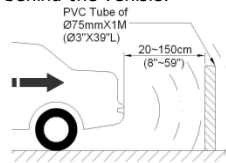

Fig.17
◆ Prepare a PVC tube of  $\varnothing 75\text{mm} \times 1000\text{mm} (\varnothing 3" \times 39" \text{L})$  for short distance test. Fig.17.
- ◆ Check the sensors one by one. Refer to Fig.17 & 18.